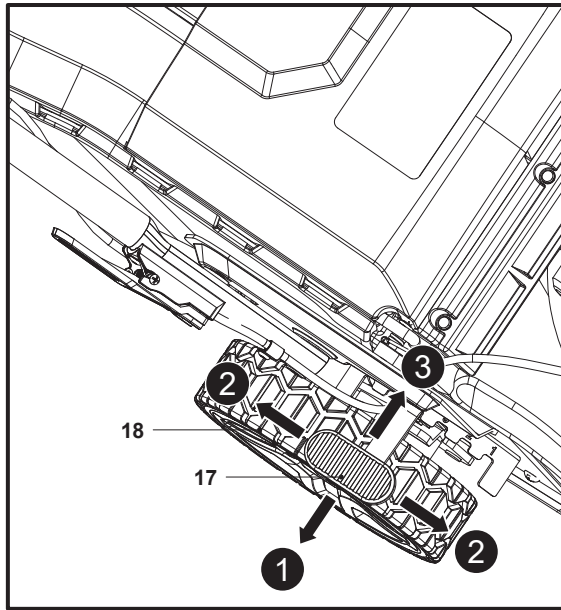

Fig. 11
1. Pull the lever (17) towards the rear wheel (18) (Fig. 11, step 1).
2. Move the lever (17) forward or backward to adjust the cutting height (Fig. 11, step 2).
3. Release the lever (17) and ensure it engages in the slot properly (Fig. 11, step 3).